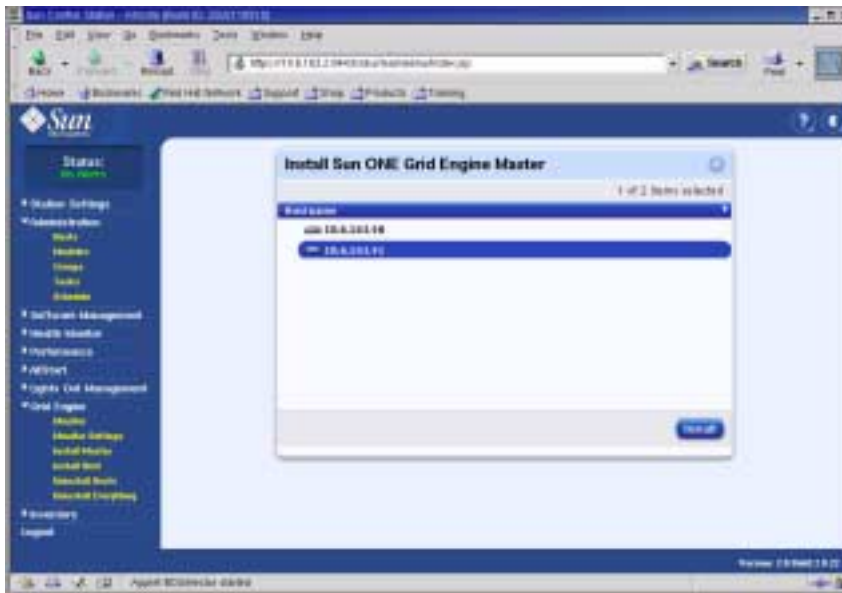

FIGURE 2-28 Install Sun ONE Grid Engine Master Window
4. **In the Install Sun ONE Grid Engine Master window, select one node from the list of managed hosts to act as the S1GEEE master host (grid master node). See FIGURE 2-28 for an example.**